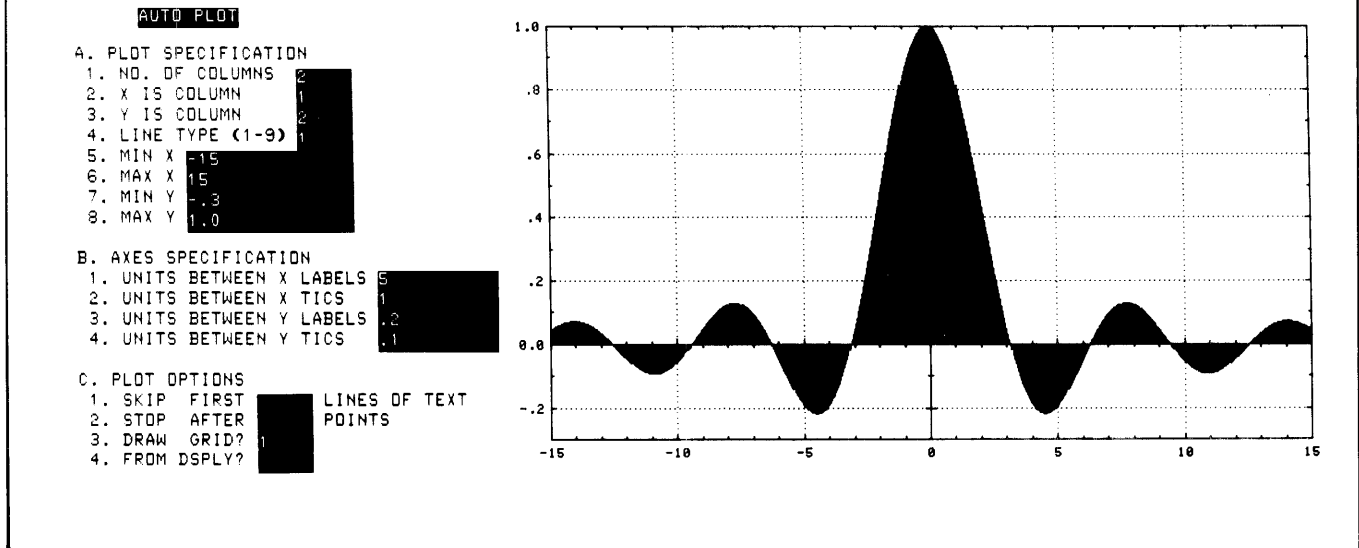

Figure 3-19. Curve Shading With Autoplot
**CURVE SHADING WITH AUTO PLOT.** You can approximate curve shading while in Autoplot Mode by selecting an appropriate drawing scale and plotting additional data points. Figure 3-19 illustrates a technique for shading curves with Autoplot.